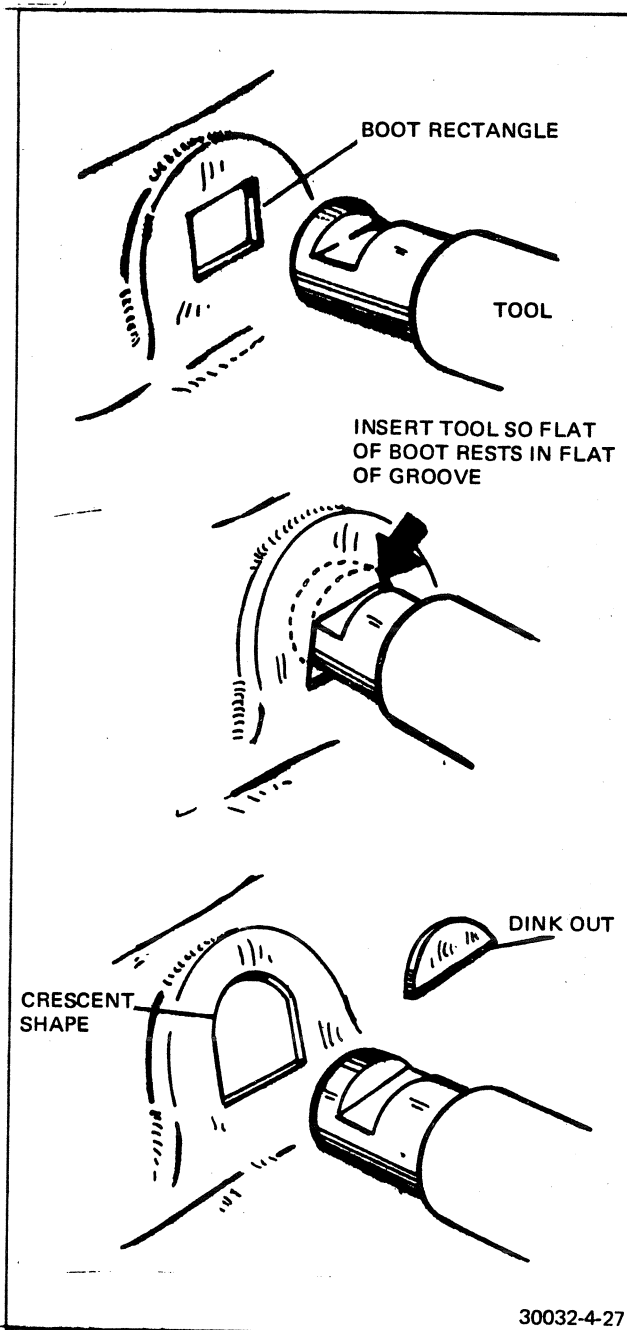

FIGURE 4-27 USING THE BOOT TRIM GUN
a. Use the Special Tool #363361 (boot trim gun) to cut out a crescent or half moon shaped opening in the boot. Figure 4-27 gives specific instructions alongside the drawings.